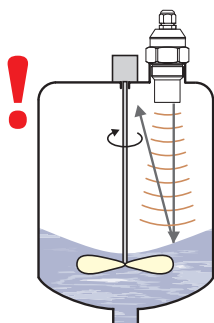

Fig. 11: Intensely stirred surface
- n) Scattering or attenuation of the ultrasonic signal can result if the surface level has been moderately stirred or rippled as a consequence of a stirrer's operation, inflow of liquid and the like. Consequently, measuring range or unreliable level meter's functioning **might follow** (Fig. 11).